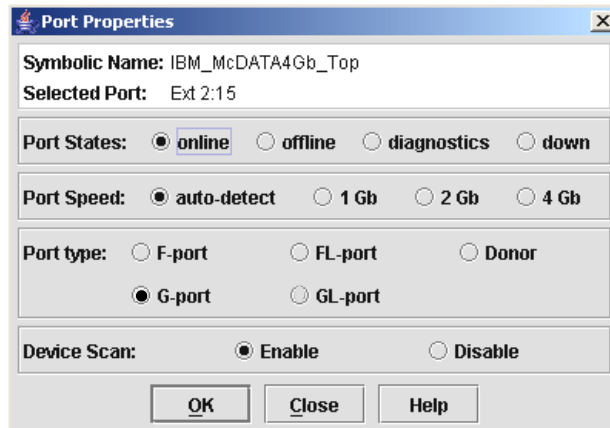

Figure 8-18 Port Properties window
7. At this stage, we need to configure our ports. Select **Port** → **Port Properties**. You will see a window similar to Figure 8-18.